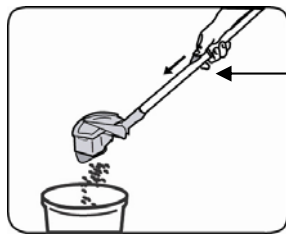

Fig. 10
2. Lift out the **dust cup container**, which is connected to the handle. Hold over a trash bin and push down on the **dust cup empty button** located on the handle. (Fig. 10)